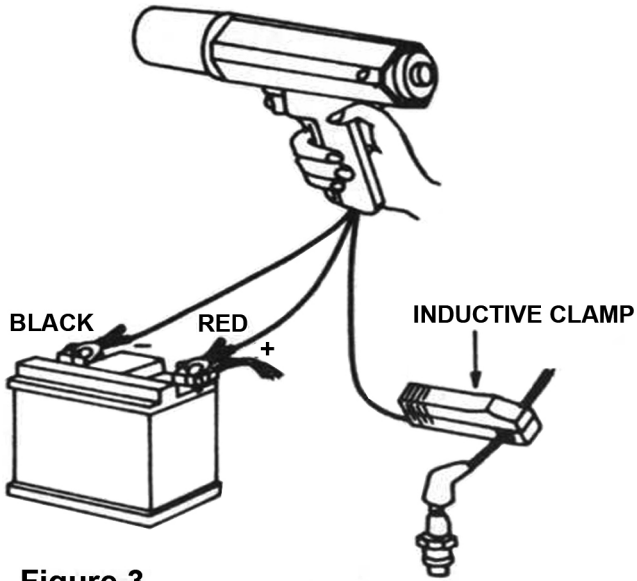

Figure 3
6. Connect the timing light as shown in figure 3 on page 8.